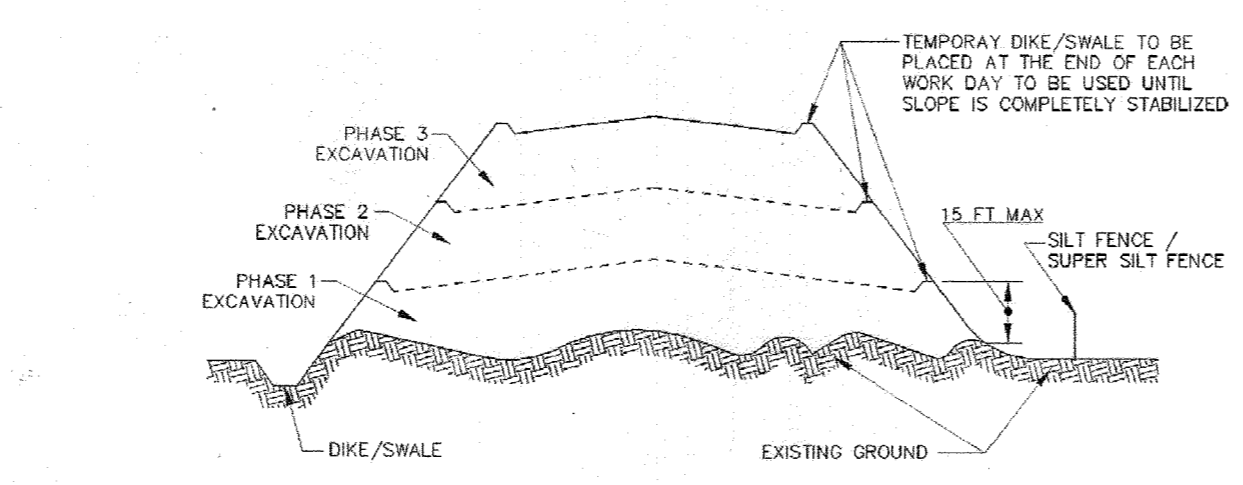

Figure B.2: Incremental Stabilization - Fill
- 4. CONSTRUCTION SEQUENCE EXAMPLE (REFER TO FIGURE B.2):